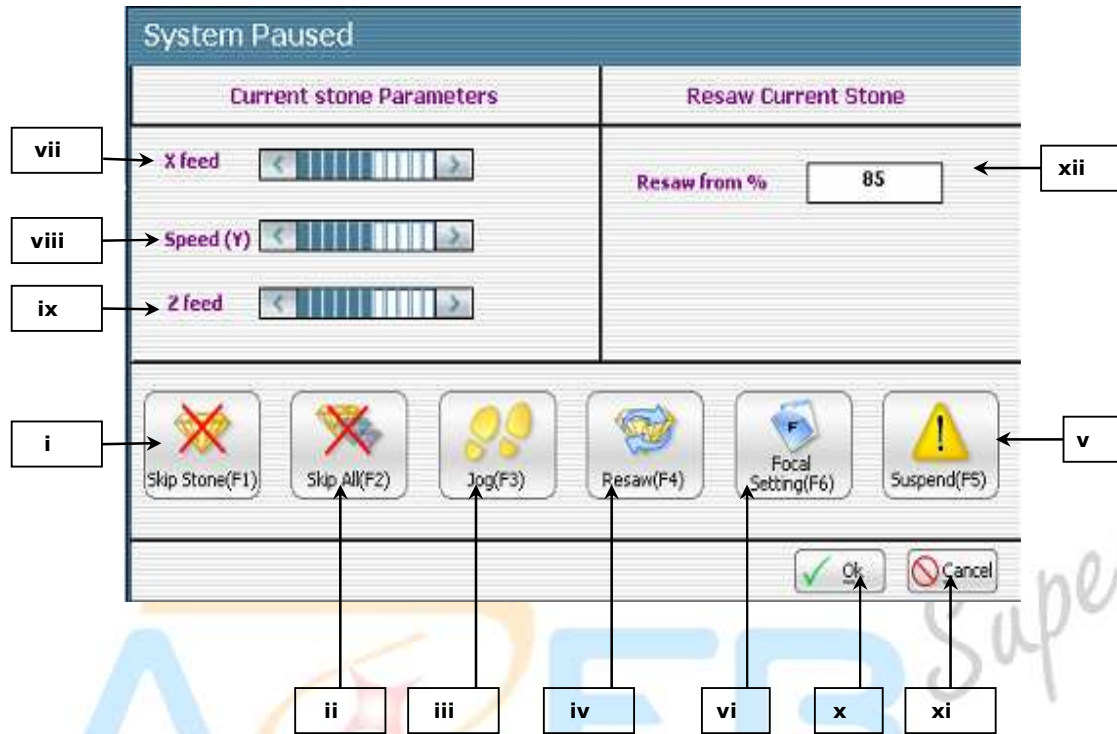

Figure 15: System Paused Sawing Process
- ii) Then specify (at **xii** as shown in **Figure 15**) from where we want to start resawing.
- ii) Then again press **F1 key** or click on **Skip Stone(F1)** Button, as shown in **Figure 15 (i)**
- iii) Then click on **Ok** Button shown in **Figure 15 (x)**
- ii) Then press **F2 key** or click on **Skip All(F2)** Button as shown in **Figure 15 (ii)**